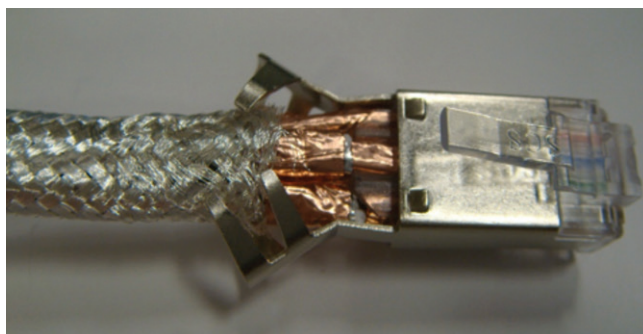

Figure 25: Replacing the braid
- Slide the braid back toward the connector, and trim the braid where it meets the copper foil (Figure 25).